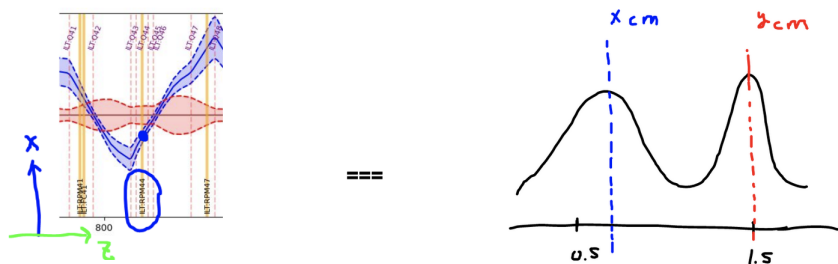

Figure 38: RPM profiles with negative polarity.
**Polarity of -1:**  $+x/y$  centroid measured on TRANSOPTR =  $-x/y$  centroid measured on beam as shown in Figure 38. Note, that the peak moved to positive direction, while the position is negative.